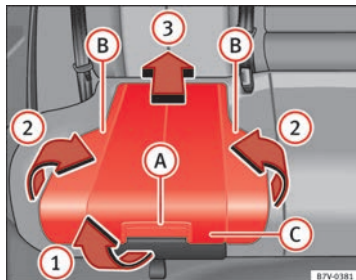

Fig. 29 Integrated child seats, lift up the cushion
- Pull the unlock lever ⇒ Fig. 29 **A** on the cushion in the direction of the arrow ⇒ Fig. 29 **1**.
- Fold both sides ⇒ Fig. 29 **B** up in the direction of the arrow ⇒ Fig. 29 **2**.
- Push the cushion ⇒ Fig. 29 **C** back in the direction of the arrow ⇒ Fig. 29 **3** until it engages.